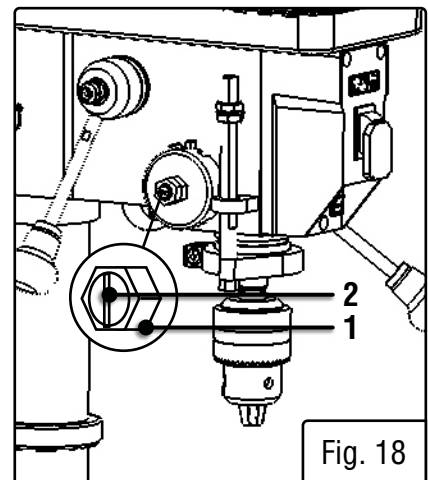

Fig. 18
ANGULAR "PLAY" OF THE SPINDLE (FIG. 18)
1. Loosen the outer nut (Fig. 18 - 1) about 1/8 inch.
2. Without obstructing the upward and downward motion of the spindle, turn the screw (Fig. 18 - 2) clockwise to eliminate the "play."
3. Tighten the lock nut (Fig. 18 - 1).